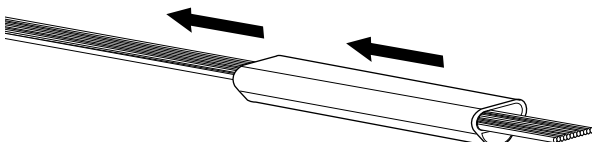

Figure 5
**4.2** Insert one of the ribbons or fiber through a splice protector sleeve. Slide the sleeve out of the way (Figure 5).